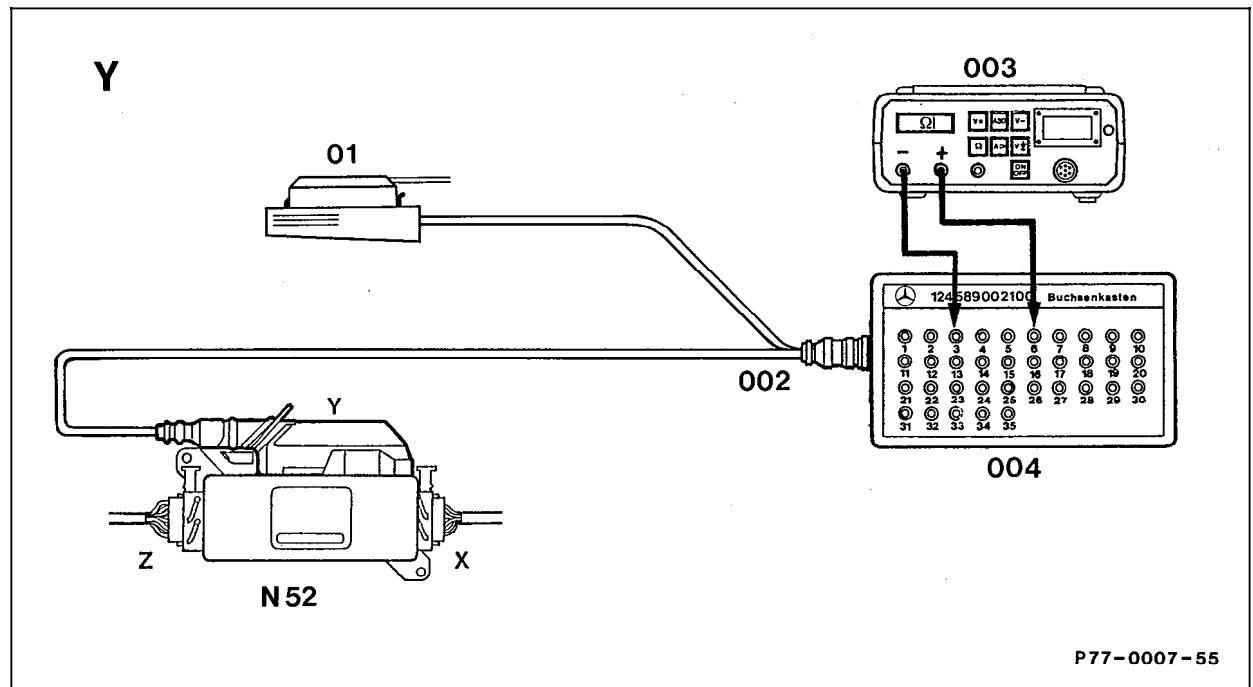

Figure 5
- Y  Connect socket box according to connection diagram "Socket Box to connector Y" (22, Fig. 5.)